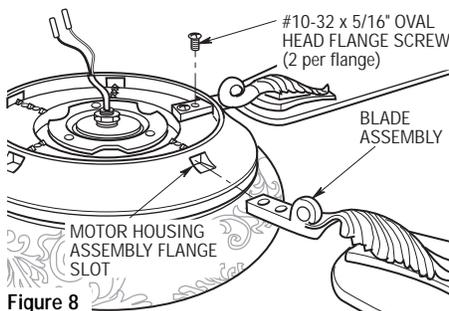

Figure 8
- 3. Carefully slide one blade assembly into the motor housing assembly flange slot. Attach the blade assembly using two #10-32 x 5/16 inch oval head flange screws (Figure 8). Make sure the screws are securely tightened. Repeat this procedure for the other four blade assemblies.